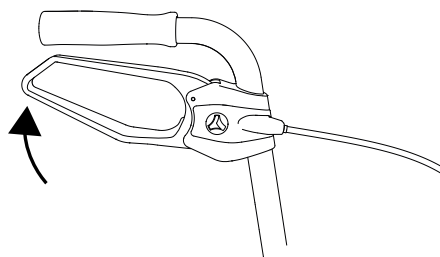

Fig. 5
1. To brake the rollator while walking in a controlled manner, pull both brake levers evenly and gently upwards (Fig. 5)